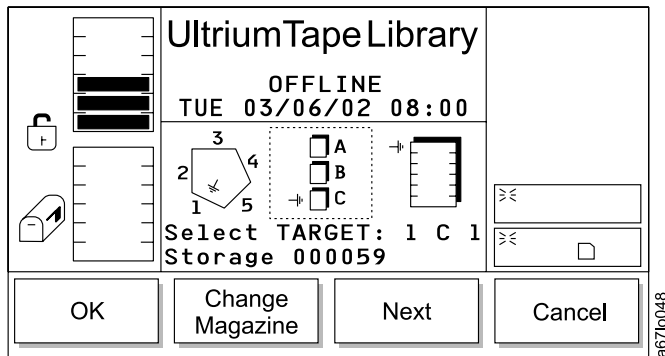

Figure 116. Change Magazine Dialog
- If **Next** is selected, the current source parameter changes from column to magazine and the Change Magazine Dialog displays (see Figure 116 on page 110).